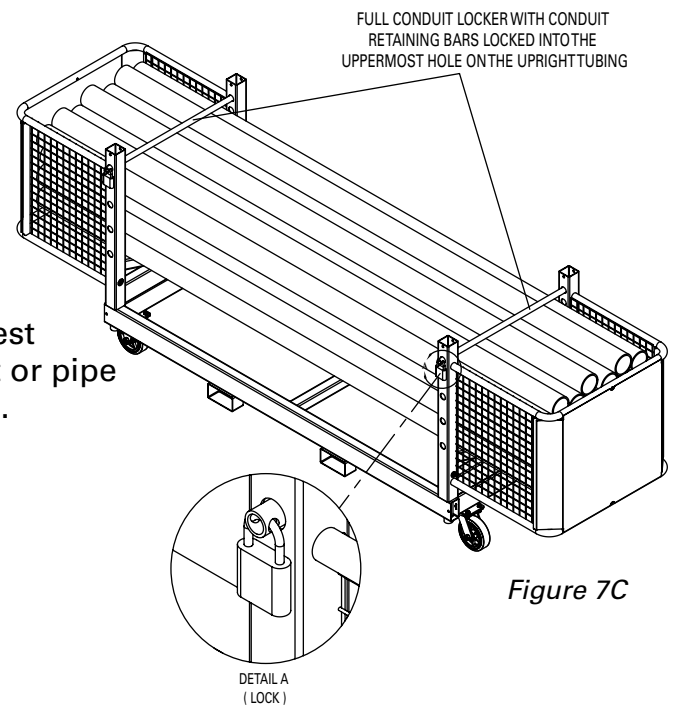

Figure 7C
3. Load conduit or pipe onto the base of the conduit locker, making sure the stack does not extend higher than the uppermost hole on the upright tubing and is within the weight capacity. (See Figure 7C).
4. For each extension basket, insert the conduit retaining bar through the closest available hole to the top of the conduit or pipe and secure with a lock. (See Figure 7C).